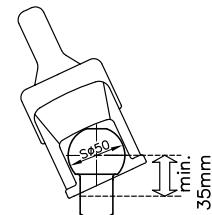

Fig.1: Towing vehicle ball rod
1.3 WS 3000/3500 ball couplings can only be used with coupling balls pursuant to DIN 74058 / ISO 1103 if the ball neck is **free from fittings over a distance of 35 mm** (Fig.1) (instead of 32 mm pursuant to DIN 74058 / ISO 1103).